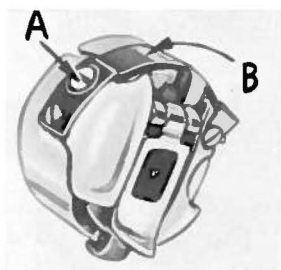

Fig. 9
The tension on the bobbin case is applied by means of a set screw (A, Fig. 9) which regulates tension spring (B). The tension on the spring is correct when it is just sufficient to hold the bobbin case and bobbin suspended by the bobbin thread. The thread should not be in the eyelet for this adjustment check.